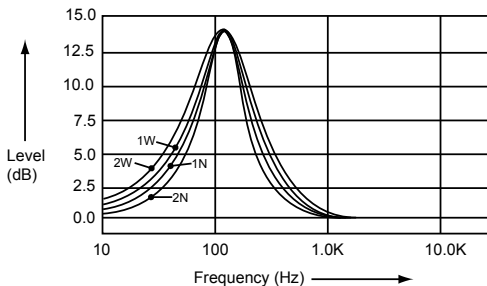

Figure 1
- 6. Audio/Enter Button:** Press Audio/Enter to navigate through the stereo sound functions. Short press “AUDIO” button to access the audio menu. User can navigate thru the audio menu items by pressing the “AUDIO” button repeatedly, or by pressing the Tuning Up (21) or Tuning Down Button (22). Once the desired menu item appears on the display, adjust that option by using the Volume Up (7) or Down button (8) within 5 seconds. The unit will automatically exit the Audio Menu after five seconds of inactivity.
- **BASS-Q: (Bass Quality Factor):** User has 5 seconds to use the Volume Up or Down button to adjust the desired Bass Quality Factor to 2N, 1N, 1W or 2W. See Figure 1.